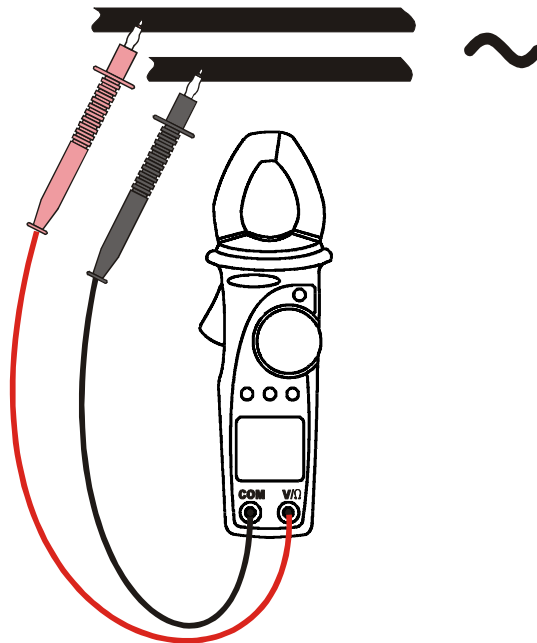

Fig. 11: Use of clamp for frequency measures
2. Insert the test leads into the jack, the red plug into V/Ω jack, and black plug into COM jack, like showed in Fig. 11.